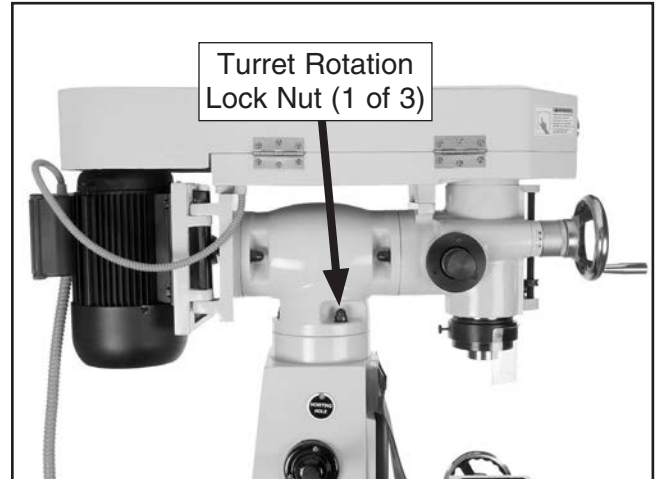

Figure 12. Turret rotation lock nut.
3. Loosen the three turret rotation lock nuts (see **Figure 12**), manually center the head over table, then re-tighten the lock nuts.